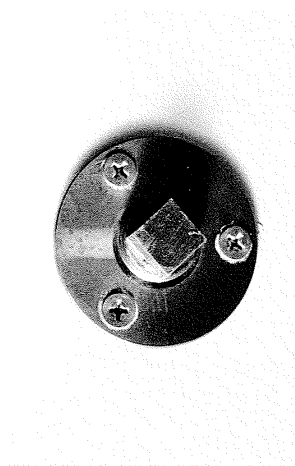

Figure 24
3. Install the drain plug. See figure 24.